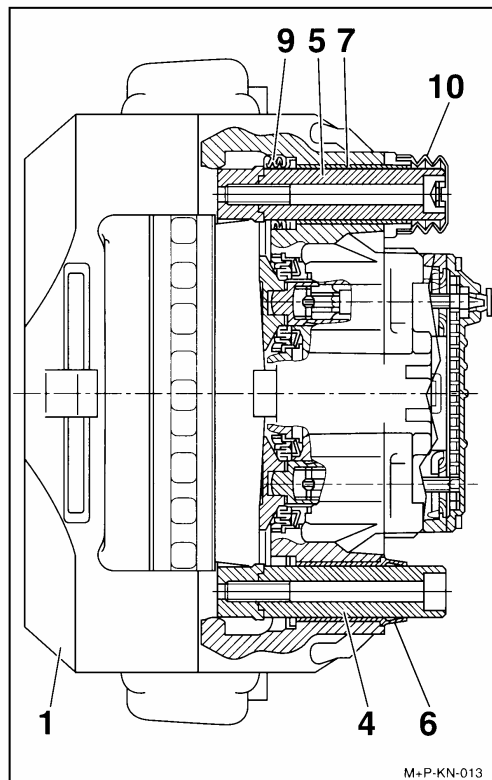

FIGURE 9: CALIPER GUIDANCE
- a. Using hand pressure only, the caliper (1) must slide freely with its guide pin arrangements (4-7) across a distance of 1 3/16 inch (30 mm) when the pads are removed. The sleeve (5) is sealed using the boot (9) and the cap (10).
- b. The rubber components (9 and 10) should show no damage. The positioning must be checked. If necessary the caliper has to be repaired using the guide kit (part #611168) or with the seal and guide kit (part #611199). When repairing a caliper with the above kits, make sure all parts in the kit are used (fig. 9). Use special green grease (Prévost #683344) to reassemble the slide pin into the bushing, white or yellow grease (Prévost #683345) may be used for all other lubrication needs.